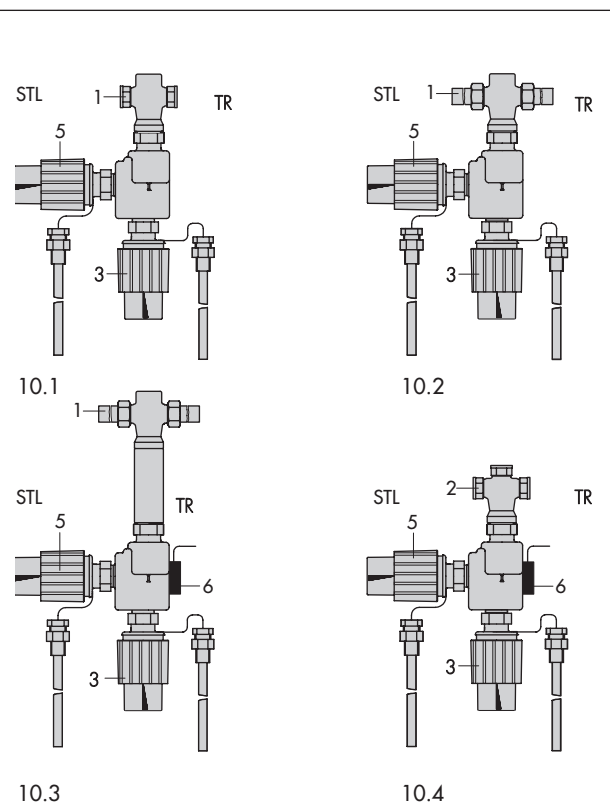

Fig. 10 · Temperature Regulators and Safety Temperature Limiters (TR/STL) with Type 2439 K Safety Thermostat and Type 2430 K Control Thermostat
The combination TR/STL (Fig. 10) consists of a Type 2439 K Safety Thermostat (5), a Type 2430 K Control Thermostat (3) and a valve (1).